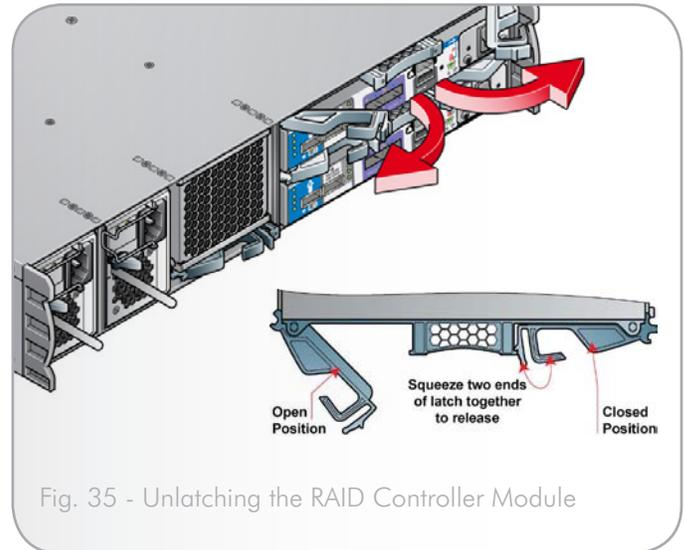

Fig. 35 - Unlatching the RAID Controller Module
2. Pull the latches outward to eject the module out of the enclosure (*Fig. 35*).